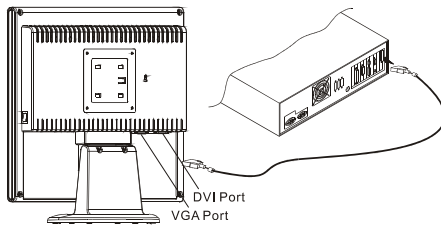

Figure 1-2
2. Connect one end of the signal cable to the LCD Monitor's VGA port or DVI port. (See Fig. 1-2)